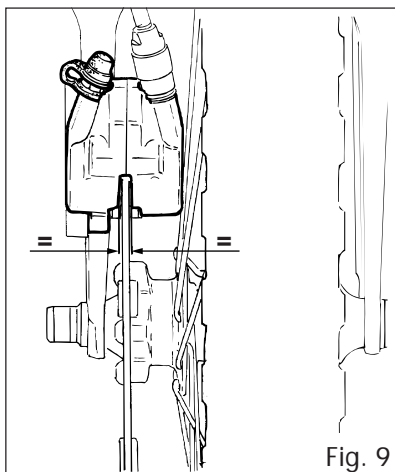

Fig. 9
- turn it slowly to check that the disk is in the center of the brakepads and none of the pads rub on the disk (fig. 9);